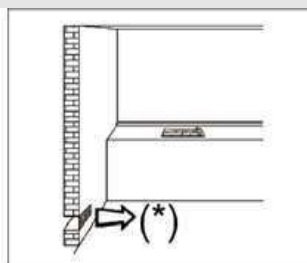

FIG. 3
- Air must naturally flow through permanent openings in the walls of the room. These openings must have an unobstructed cross section of at least 100 cm (see FIG. 3).